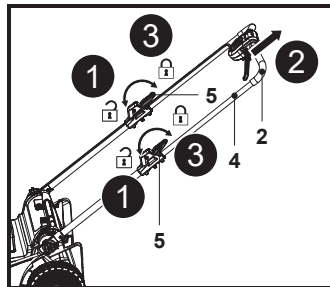

Fig. 3
7. Open the two locking levers (5), then grasp the grip handle (2) and gradually pull the upper handle bar (4) out all the way to the end (Fig. 3, steps 1, 2).
8. Close the two locking levers (5) and check whether the upper handle bar (5) is secured (Fig. 3, step 3).